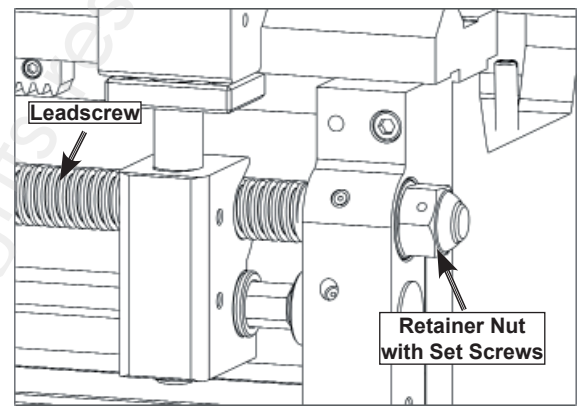

Fig. 85 Leadscrew end play adjustment
3. Loosen both retaining nut set screws shown in figure 85.